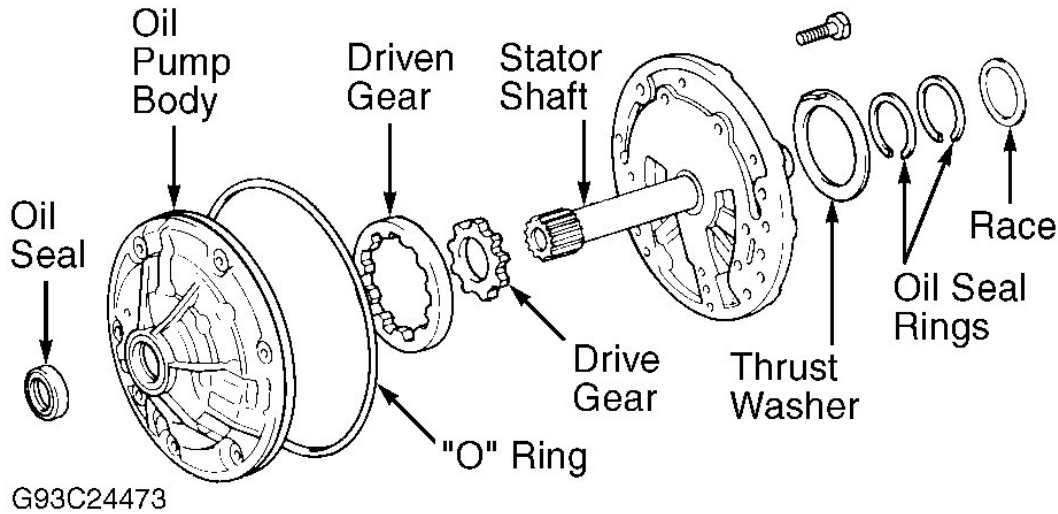

Fig. 23: Exploded View Of Oil Pump Assembly
2. Mark stator shaft and oil pump body for reassembly reference. Remove stator shaft bolts. Separate stator shaft and oil pump body. Mark gear location for reassembly reference. Remove pump gears. Using screwdriver, remove front seal. See **Fig. 23**.
pump body. Install oil seal rings. Use care not to over expand rings. Using screwdrivers, check drive gear for smooth rotation. Install "O" ring. Install race on stator shaft. See **Fig. 23** .